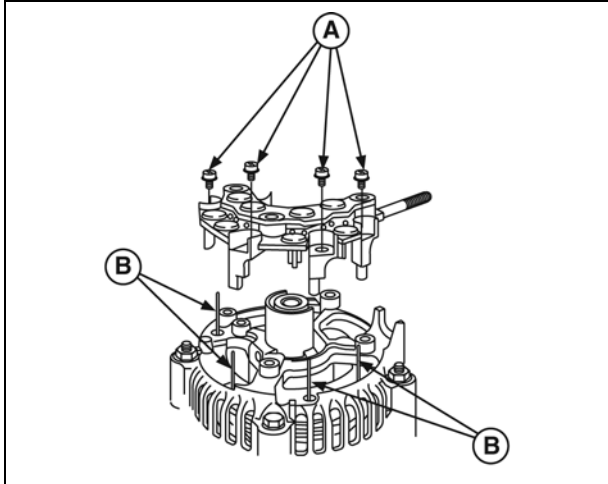

Figure 24
- Remove two nuts and two thru bolts (A, Figure 24).